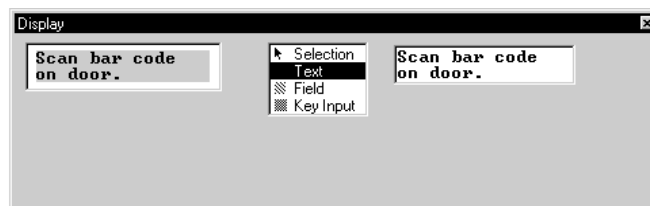

Figure 4-70 “Instruct2” Handler Message Entered
43. Press <Enter> to accept the text entry. The entered text appears in the display area at the left of the **Display** window (Figure 4-70).